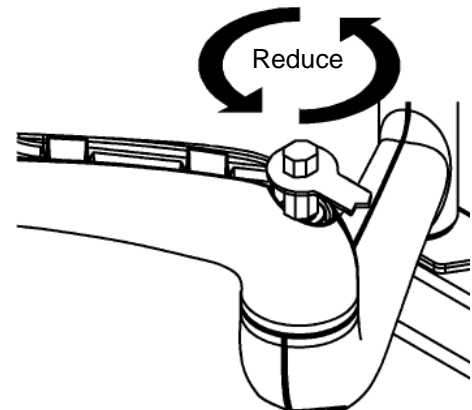
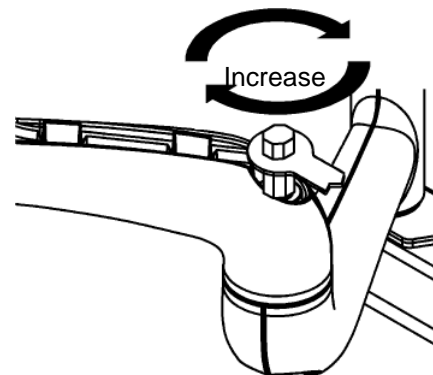

Figure 3: Reduce Swing Arm Tension
Figure 4: Increase Swing Arm Tension
3. Using the adjustment wrench (10), turn adjustment bar (20) clockwise to increase swing arm tension or counterclockwise to reduce swing arm tension. (see figure 3) and (see figure 4)